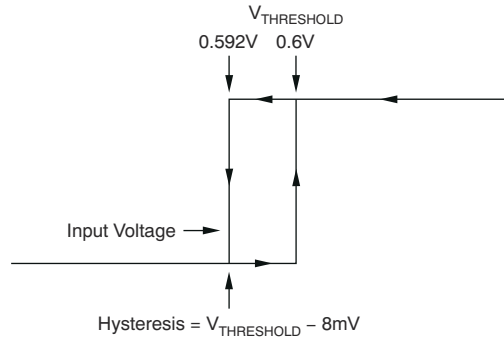

Figure 7-1. Typical Comparator Hysteresis
- (1) Hysteresis refers to the threshold (the threshold specification applies to a rising edge of a noninverting input) of a falling edge on the noninverting input of the comparator; see Figure 7-1.
- (2) Specified by design.
- (3)  $V_{ID}$  refers to the differential voltage at the comparator inputs.
- (4) Pulling the open-drain output to the range of 2.7 V to 18 V is permissible, regardless of  $V_S$ .
- (5) The comparator response time specified is the interval between the input step function and the instant when the output crosses 1.4 V.
- (6) The RESET input has an internal 2-M $\Omega$  (typical) pulldown. Leaving RESET open results in a low state, with transparent comparator operation.
Figure 7-1 shows the typical comparator hysteresis.